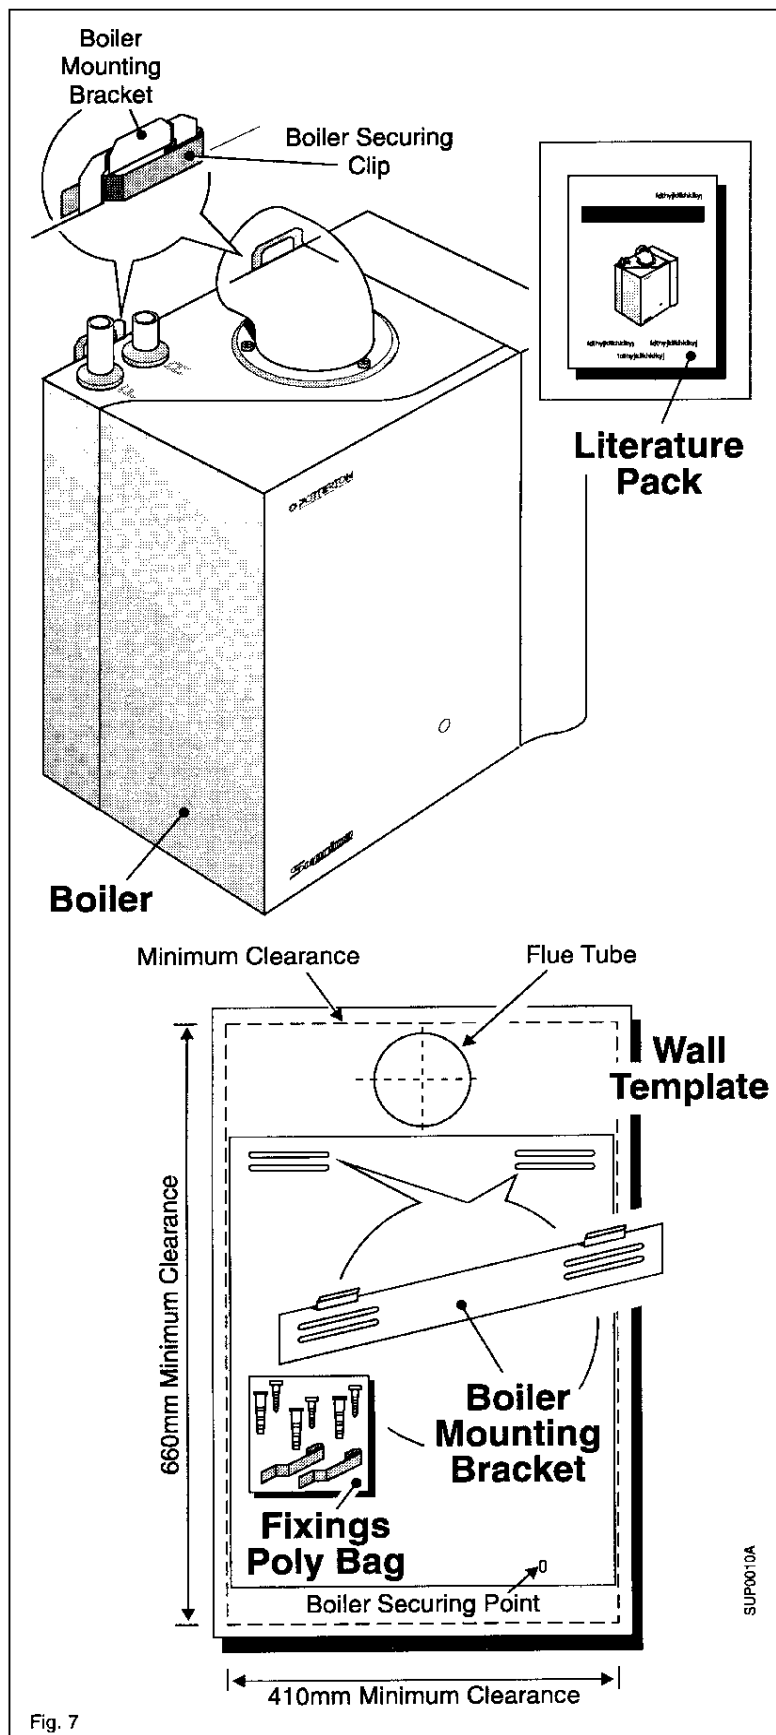

Fig. 7
10. Lift the boiler onto the mounting bracket, slide both boiler securing clips over the mounting bracket (this prevents the boiler from being accidentally lifted off the the mounting bracket), see fig.7.